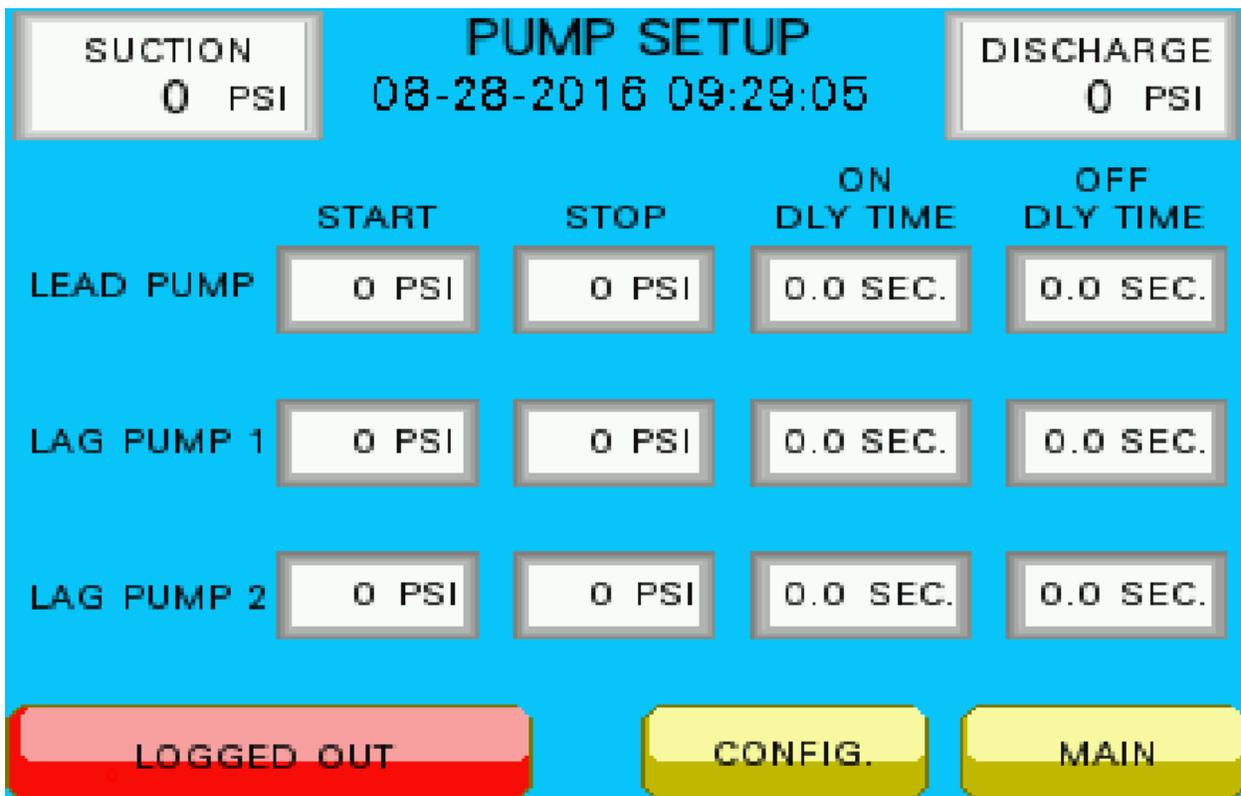

Figure 7.0
1. The user can access this screen using the PUMP SETUP button from the MAIN screen. Once pressed you will be taken to the PUMP SETUP screen like figure 7.0 below